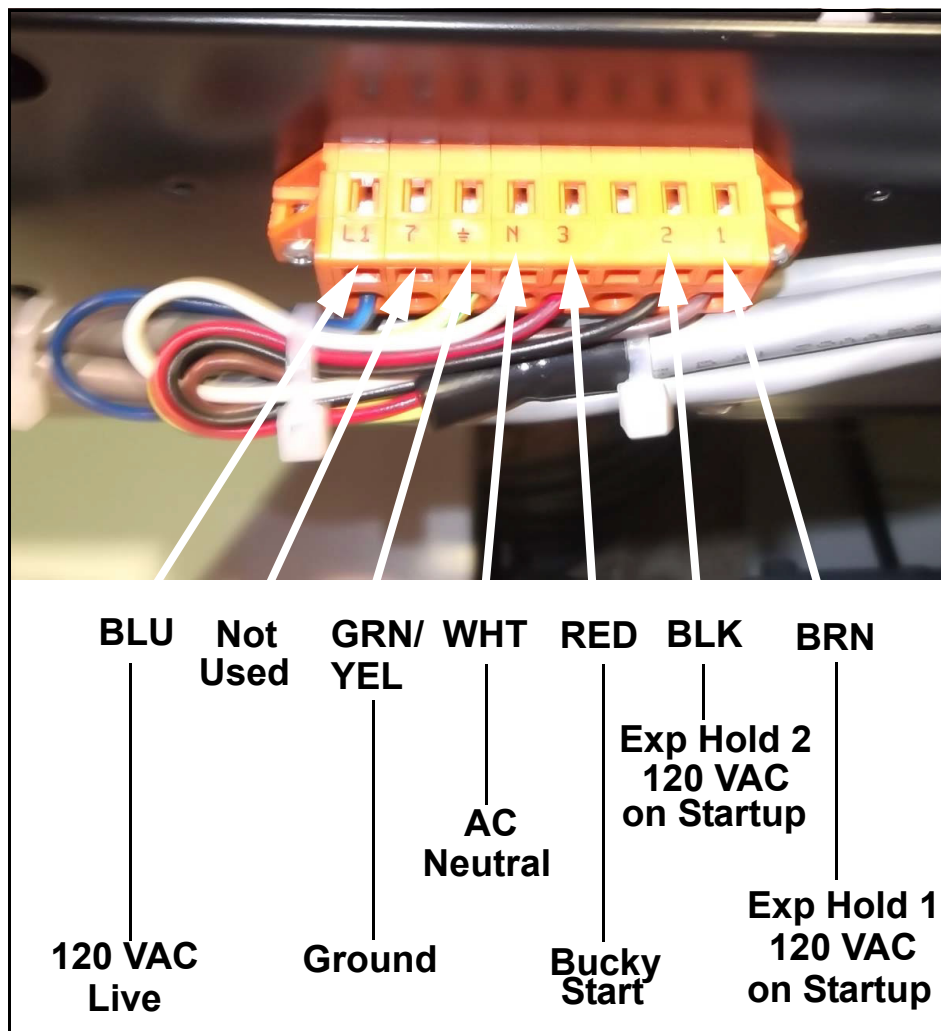
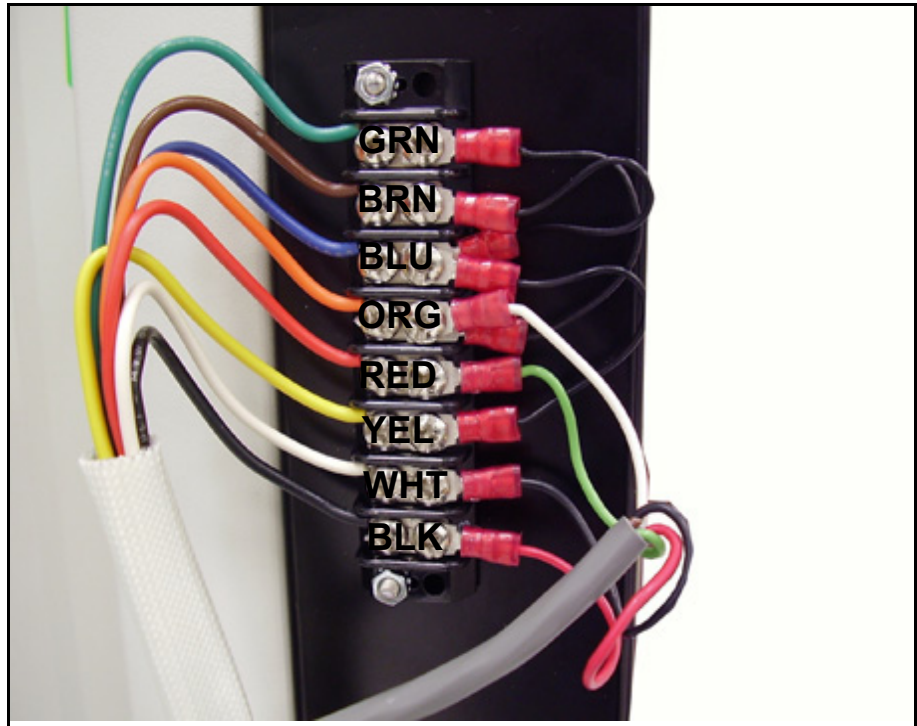

Figure 5-22. Bucky Wiring Diagram
Figure 5-23. PBL Wiring Diagram
- 27** Reverse steps to reassemble. See Figure 5-22 & Figure 5-23 for wiring information for the bucky and PBL. Be sure to recheck alignment according to Chapter 2 when setting the wallstand back up.